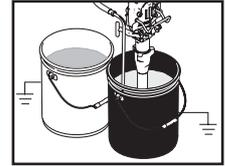

Fig. 16
10. Place pump in grounded metal bucket partially filled with flushing fluid. Attach ground wire to bucket and to true earth ground. Perform steps 1-5 of "Startup" to flush out storage oil shipped in sprayer. Use water to flush water-base paint and mineral spirits to flush oil-base paint and storage oil. (Fig. 16)